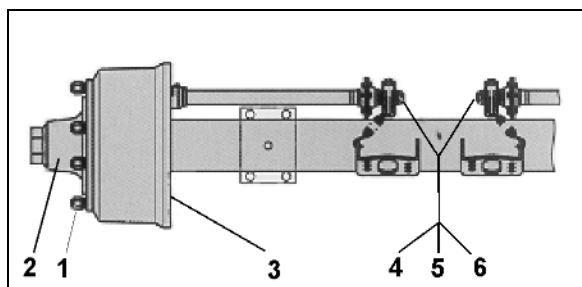

Fig. 134
**Check wheel nuts for firm seating, retighten if necessary (Fig. 134/1)**
**Checking the wheel hub bearing play (Fig. 134/2)**
### Brake pad check (Fig. 134/3)
### Settings on the slack adjuster (Fig. 134/4)
### Function check for automatic slack adjuster (Fig. 134/6)